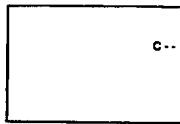

Fig. 10
- Press C on the Remote Commander for regular channels, or twice to get cable channels. The indication "C" ("S" for cable channels) appears on the screen. (See Fig. 10.)